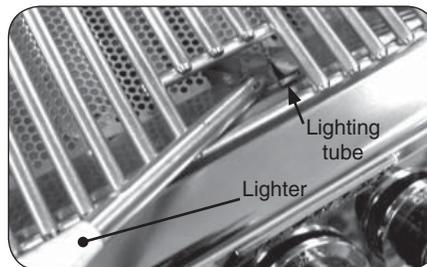

Fig. 17-2 - Manual lighting
Note: If the burner must be lighted manually, visually inspect the ignitor in the lighting tube (Fig. 17-2) while holding down the ignitor button. If it does not glow orange, check the electrical connections.
2. Insert either a burning long-barrel butane lighter or a burning long-stem match through the cooking grid opening to the top of the lighting tube. (Fig. 17-2). For backburners, hold the flame against the perforated material of the backburner. For sideburners, hold the flame against the burner.
4. If the burner does not light, **immediately depress the knob and turn the valve to OFF. WAIT FIVE (5) MINUTES** before repeating steps 2 through 4 of the MANUAL LIGHTING instructions.